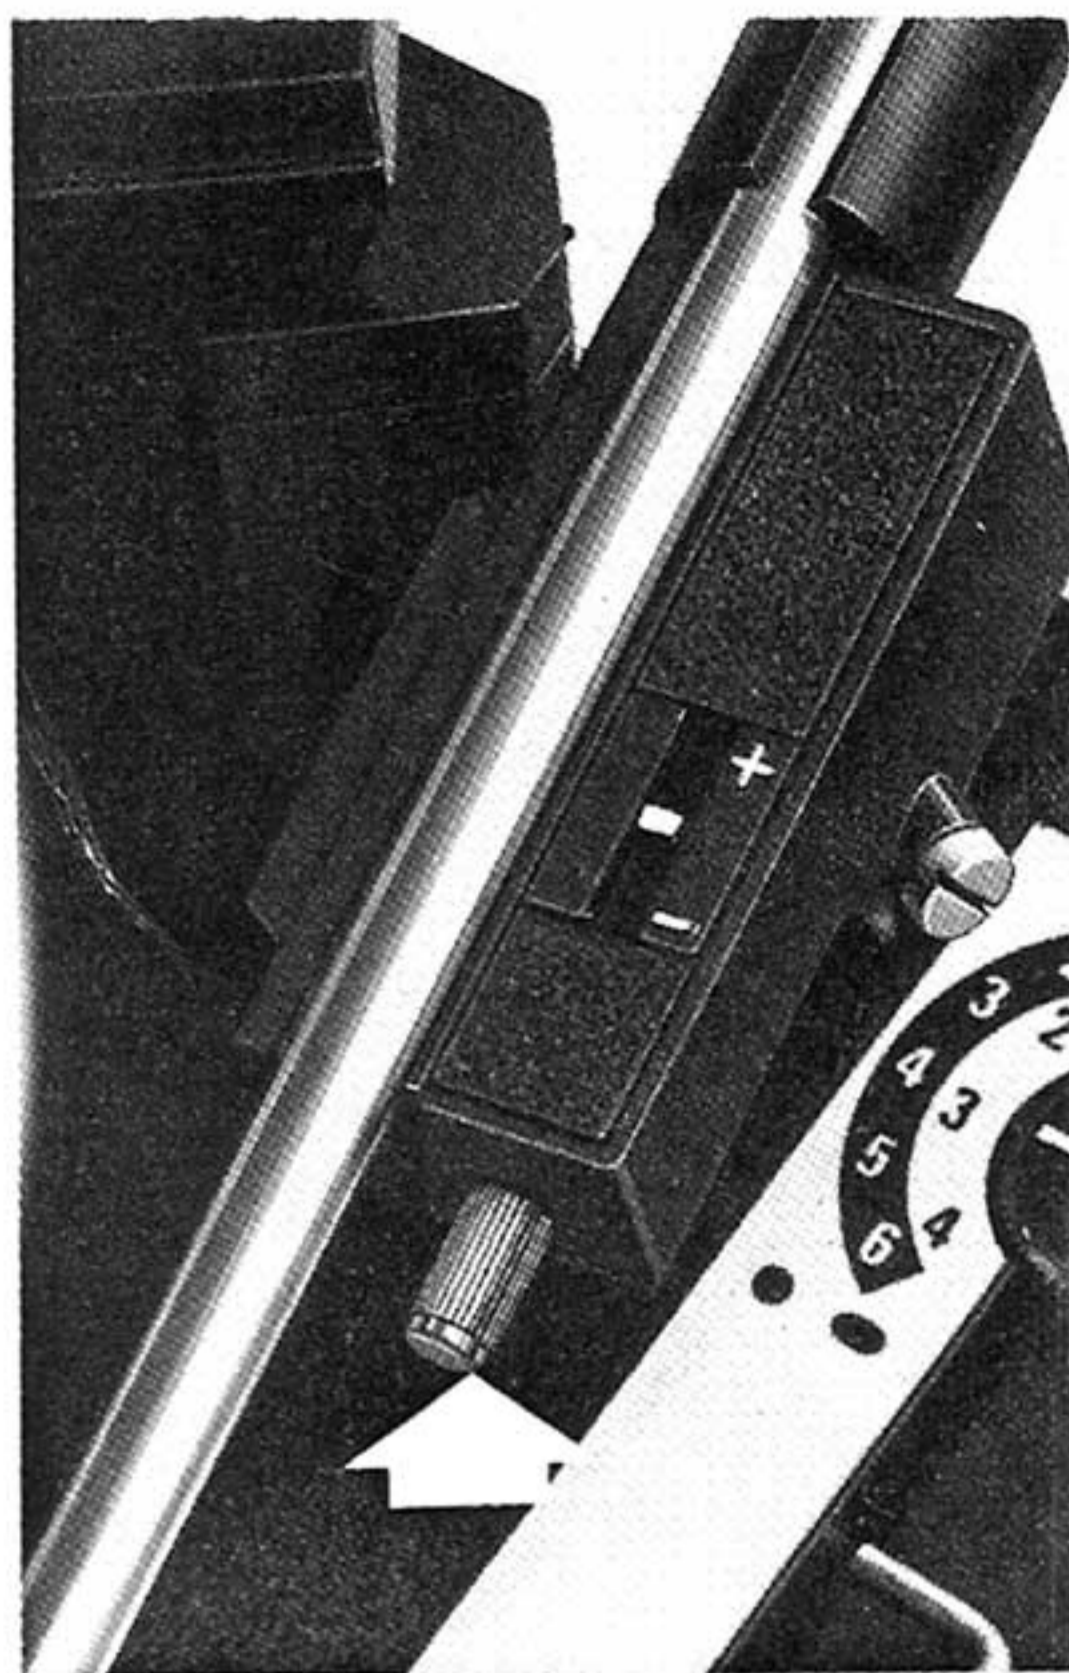

Fig. 3 STYLUS PRESSURE ADJUSTMENT
1. **Stylus Pressure.** The stylus pressure should always be set as recommended by the cartridge manufacturer. The pressure is adjusted by means of the stylus pressure adjusting knob (Fig. 3). Turning clockwise reduces the pressure, anti-clockwise increases the pressure.